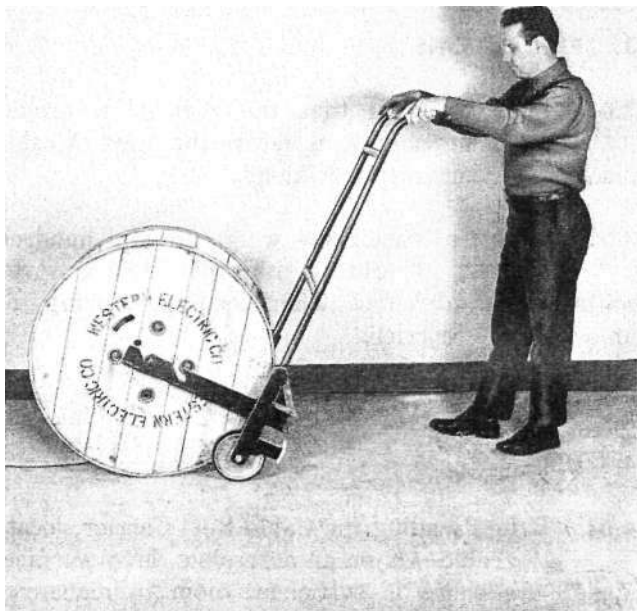

Fig. 2—Wheeling Position
- (e) Pull back on the handles until the reel is clear of the floor, using care to prevent the truck from rolling. Continue to pull back on the handles until the truck is balanced (Fig. 2). This is the carrying position.